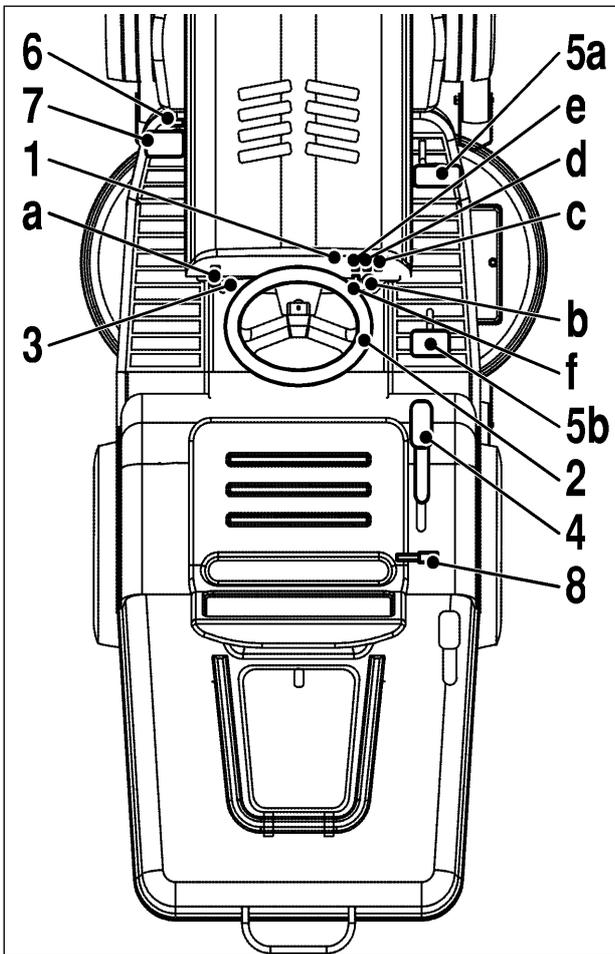

Fig. 11
1. Dash panel (fig. 11)
OPERATION AND DESCRIPTION (FIG. 11)
3. Switch the MAN/AUTO button to the lower AUTO position (fig. 11, d).